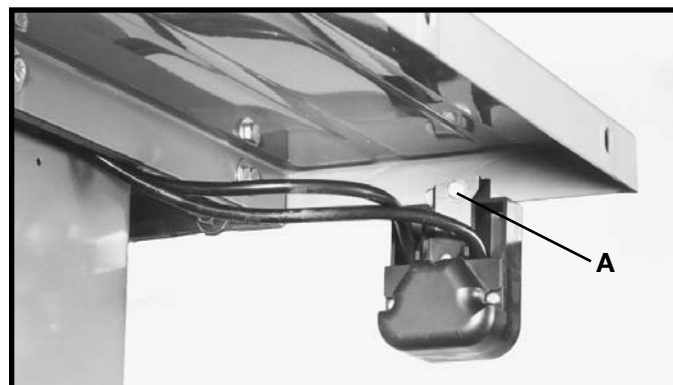

Fig. 18
1. Remove the screw (A) Fig. 18 that attaches the ON/OFF switch to the sheet metal wing. Insert a 3/8-16x1¼" hex head screw through the sheet metal wing and the ON/OFF switch bracket and place a 3/8" washer onto the screw, and thread a 3/8-16 hex nut onto the bolt, do not tighten the nut at this time. **NOTE: LEAVE THE HEX HEAD BOLT EXTENDED OUT THE FRONT OF THE SHEET METAL WING, THE GUIDE RAIL WILL BE ATTACHED TO THE END OF THE HEX HEAD SCREW.**